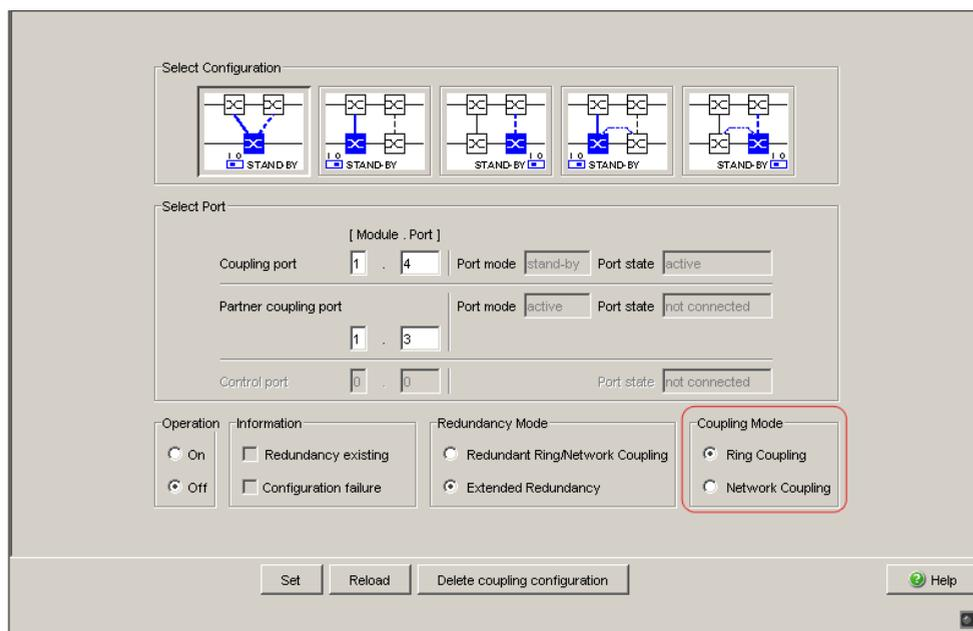

Figure 13: One-Switch coupling: Selecting the coupling mode
- In the “Coupling Mode” frame, select (see figure 13)